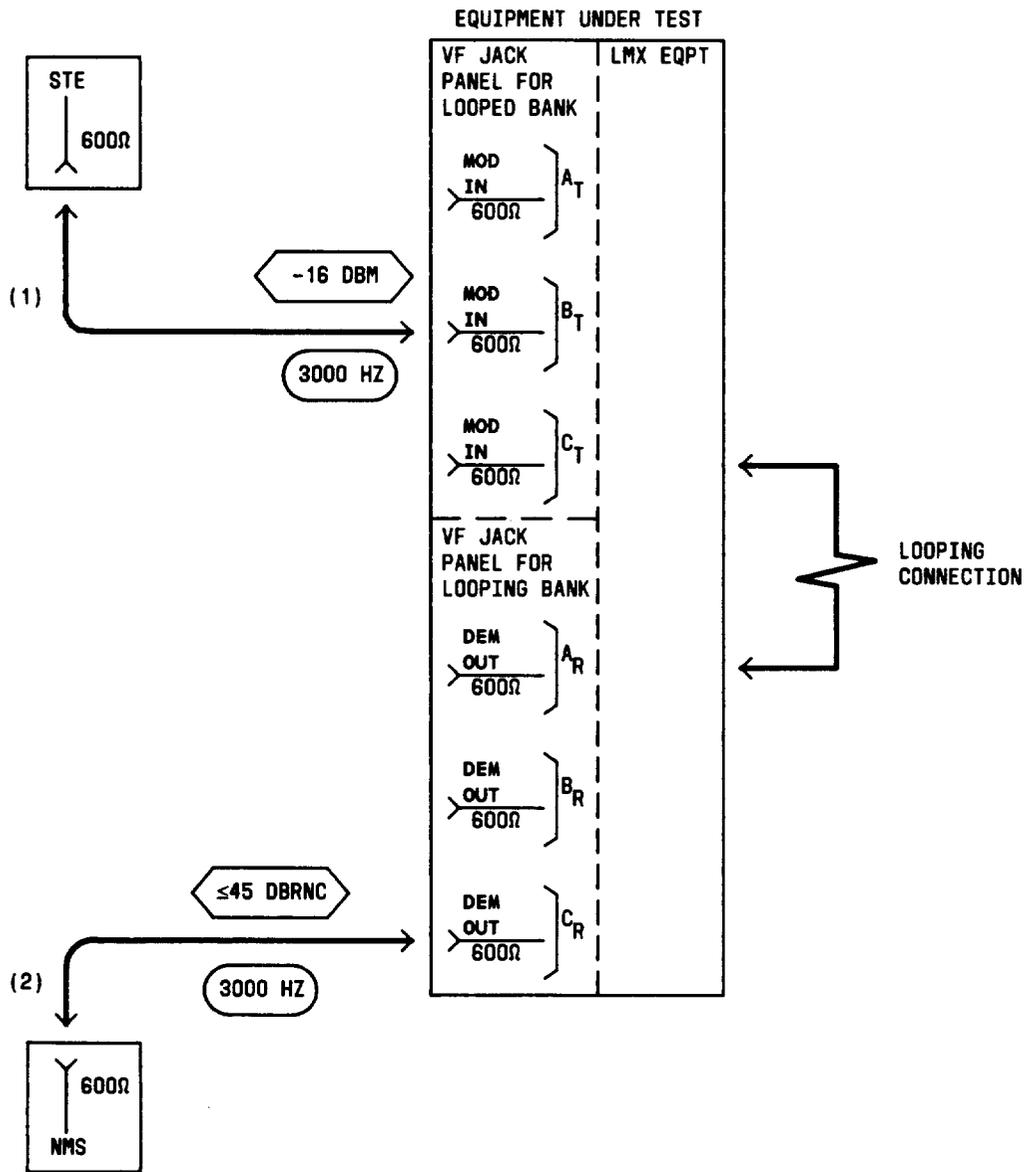

Fig. 16—Patching Diagram—Crosstalk Test—Equal-Level Looping—Upper Adjacent Channel (3000 Hz)
- 19 Connect the STE to the MOD IN jack for Test A in *looped*-bank Channel B_T [Table G and patch (1), Fig. 16].
- 20 Connect the NMS to the DEM OUT jack for Test A in *looping*-bank Channel C_R [Table G and patch (2), Fig. 16].
24	Remove patches (1) and (2), Fig. 16.